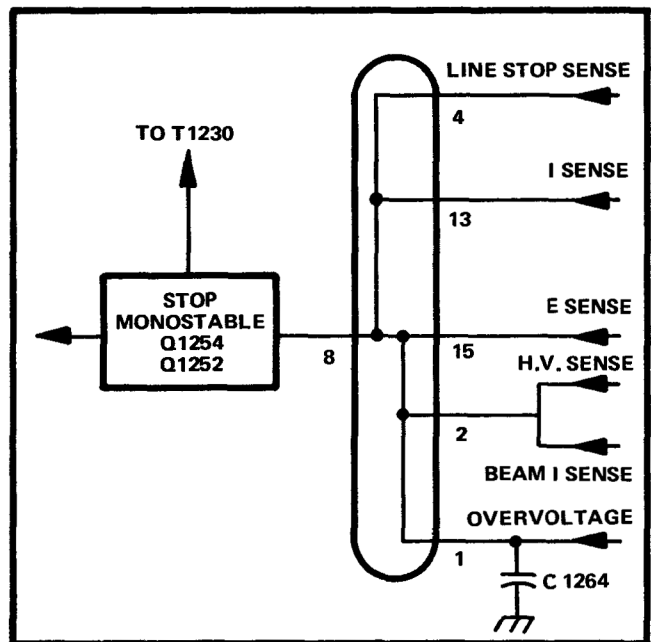

Fig. 3-16. Power Supply Protection Circuit Block Diagram.
**Power Supply Protection Circuit.** The power supply protection circuit provides fault protection for the inverter, low voltage, and high voltage power circuits. Fig. 3-16 shows a simplified block diagram of the power supply protection circuit. A schematic of this circuit is shown on diagram 13 at the rear of this manual.